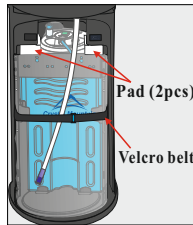

Figure 2
- 2) Unstrap the Velcro belt, remove the POU Kit along with the 2 pcs foam pads and plastic bag (Figure 2). (Discard: Strap, Foam Pads and Bag)